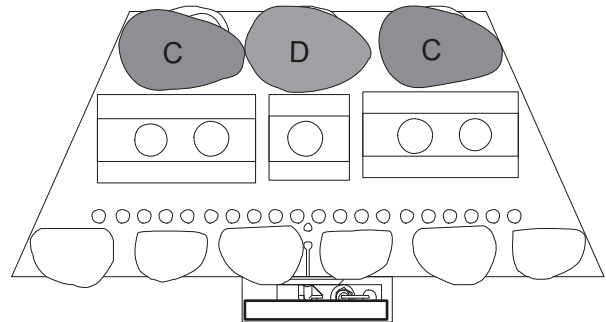

Figure 12
2. Place pebbles C & D in position as shown in Figure 12.